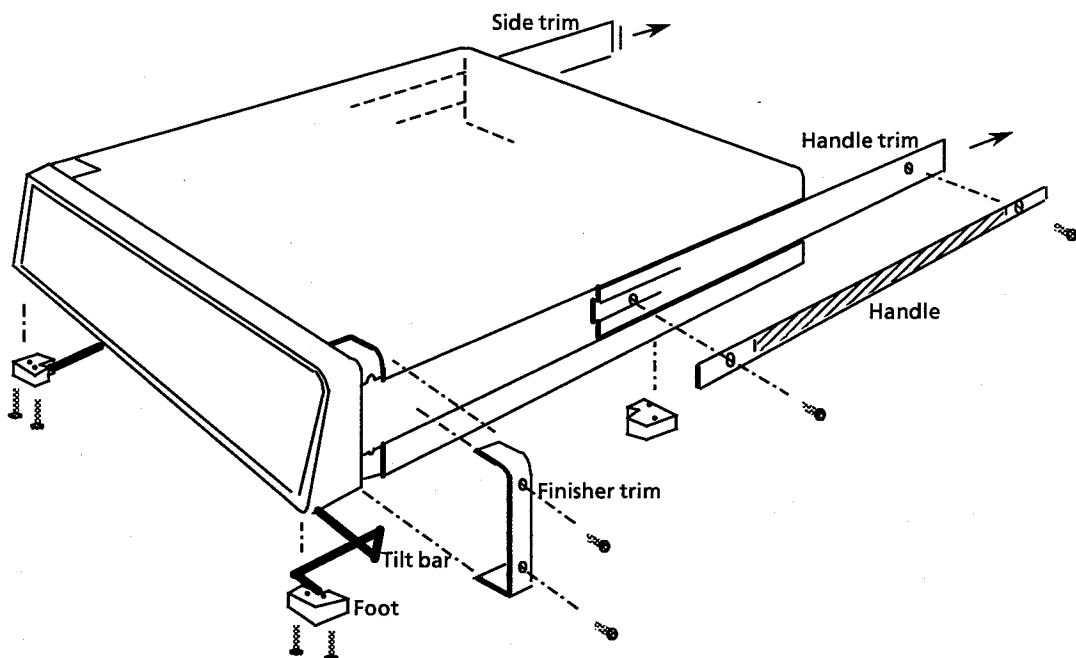

Fig. 2.5 Removal of trims, handle, feet and tilt bar
6.4.1 Remove the following items from the unit, as shown in Fig. 2.5: